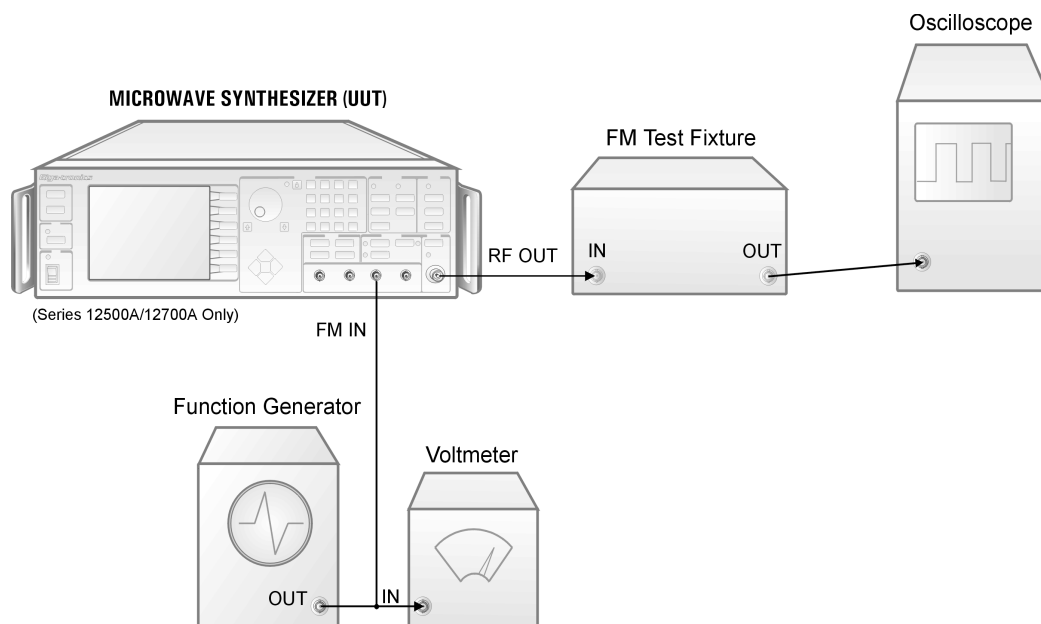

Figure 4-7: Frequency Modulation Test
1. Connect the FM test fixture to the RF OUT connector of the 12000A as shown in Figure 4-7. Monitor the mixer output with the oscilloscope (5 mV/div). Set the 12000A to any null frequency between 4.0 and 7.99 GHz (that is, at a frequency where the mixer output voltage is zero); +10 dBm out, no modulation.